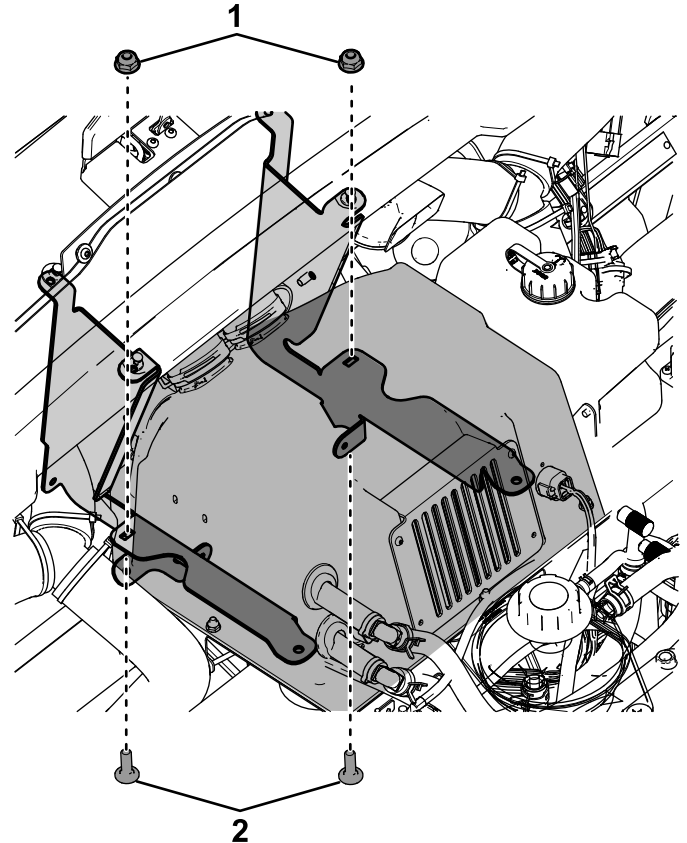

Figure 18
2. Attach the back of the heater box assembly to the dash brackets on the machine with 2 carriage bolts (1/4 x 3/4 inch) and 2 locknuts (1/4 inch); refer to Figure 18.